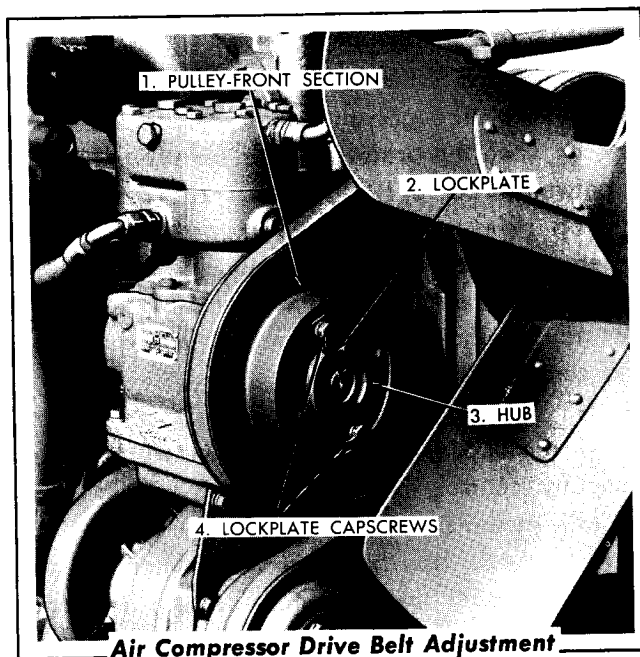

FIG. 68
- a. Remove two (2) capscrews attaching lock plate (Fig. 68) to pulley front section and remove lock plate.